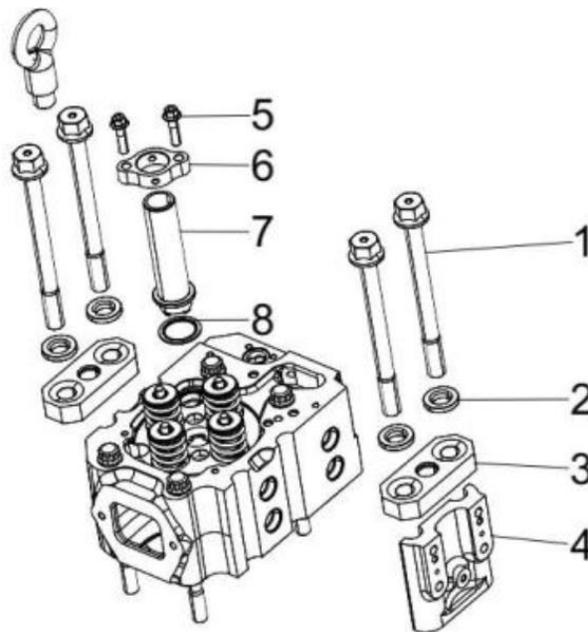

Figure 51. Cylinder head Assembly
2. Remove the cylinder secondary bolts (Figure 51, 1), gasket (Figure 51, 2), clamping block (Figure 51, 3) and end plate (Figure 51, 4).